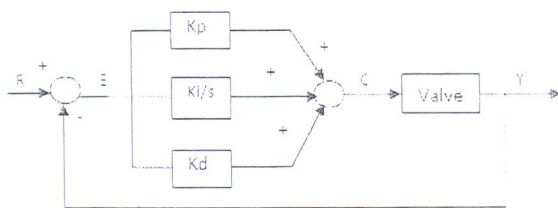
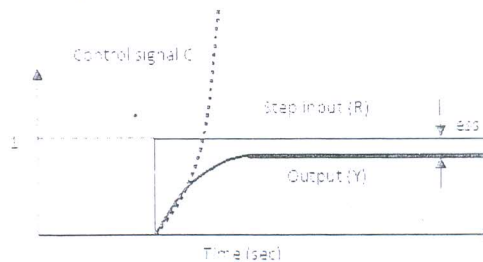

Figure 3
Figure 4
Figure 3 shows a PID control system for a Valve. The PID parameters are tuned to give best response. However in some cases the PID control Signal (c) is not enough to reach the set point as shown in Figure 4. The high steady state error (ess) and the highly increasing control signal (C) is quite noticeable in the figure. Please state the name of such phenomena and its reasons. Show in block diagram how may you solve such problem?